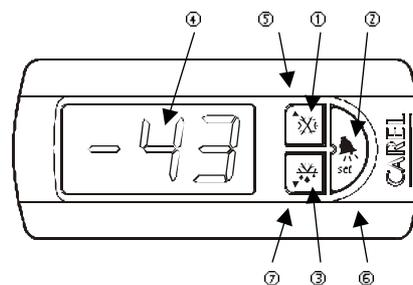

Fig. 2.3.1
Fig. 2.3.1 shows the front panel of the plug-in: display and buttons. On the front panel of the instrument there is a three-digit display (ref. 4 in the figure 2.3.1), and three LEDs back-lighting the buttons (refs. 1, 2 and 3 in Fig. 2.3.1).
Three buttons (5, 6 and 7 in Fig.2.3.1) are used to perform the activation and deactivation of the instrument's operating states and set the parameters.